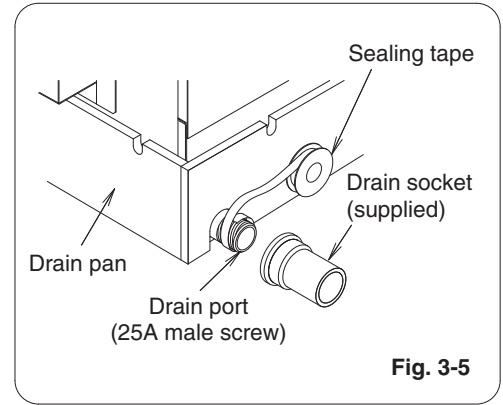

Fig. 3-5
- (2) If connecting a drain socket (supplied) to the threaded drain port, first wrap the drain port threads with sealing tape, then connect the joint. (Fig. 3-5)